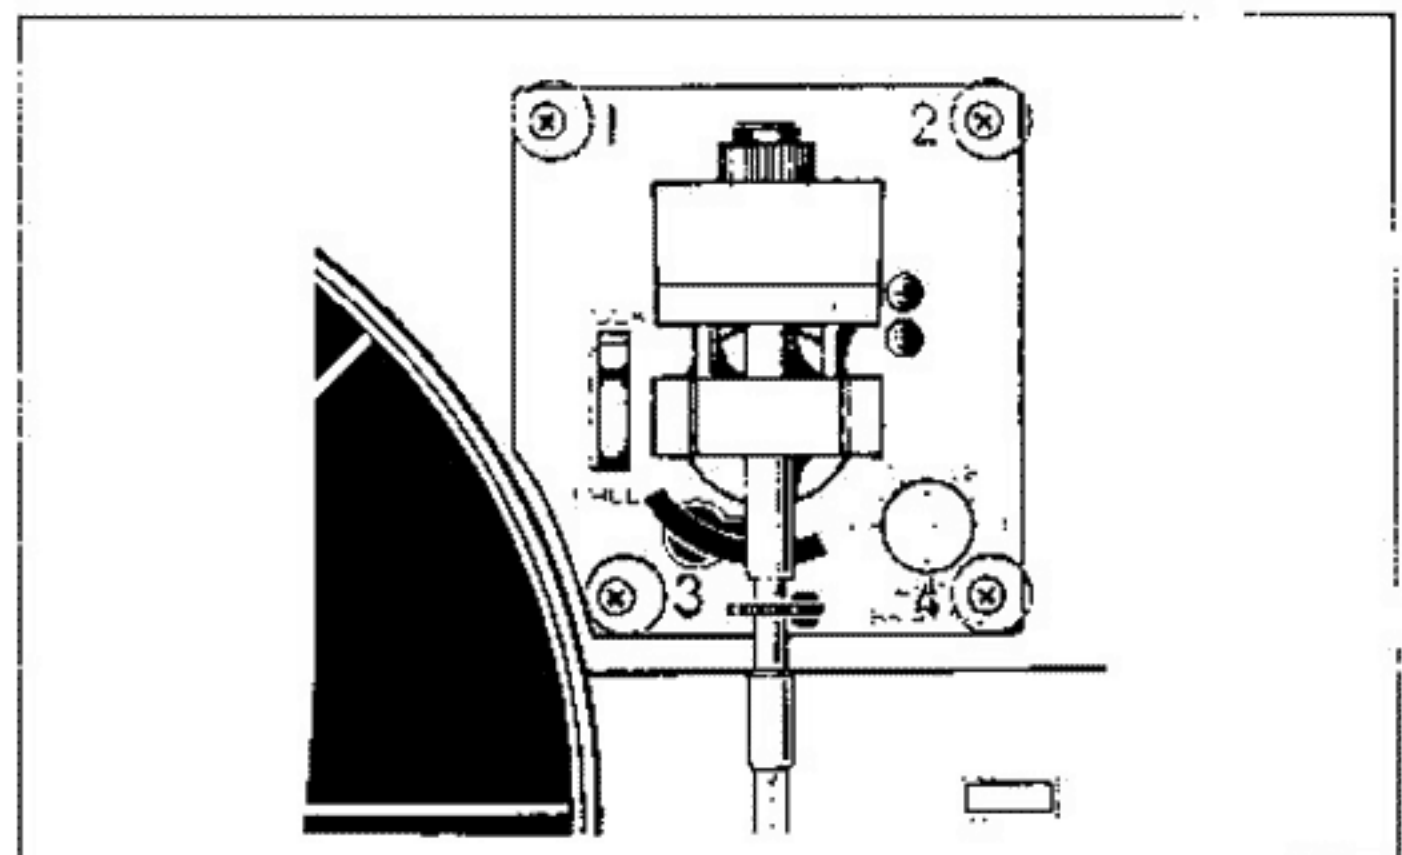

Fig. 6
d. Remove screw ① ~ ④ in Fig. 6 and then remove the tonearm unit.
① ~ ④: Bind Head P-Tyte Screw 3 x 12Y